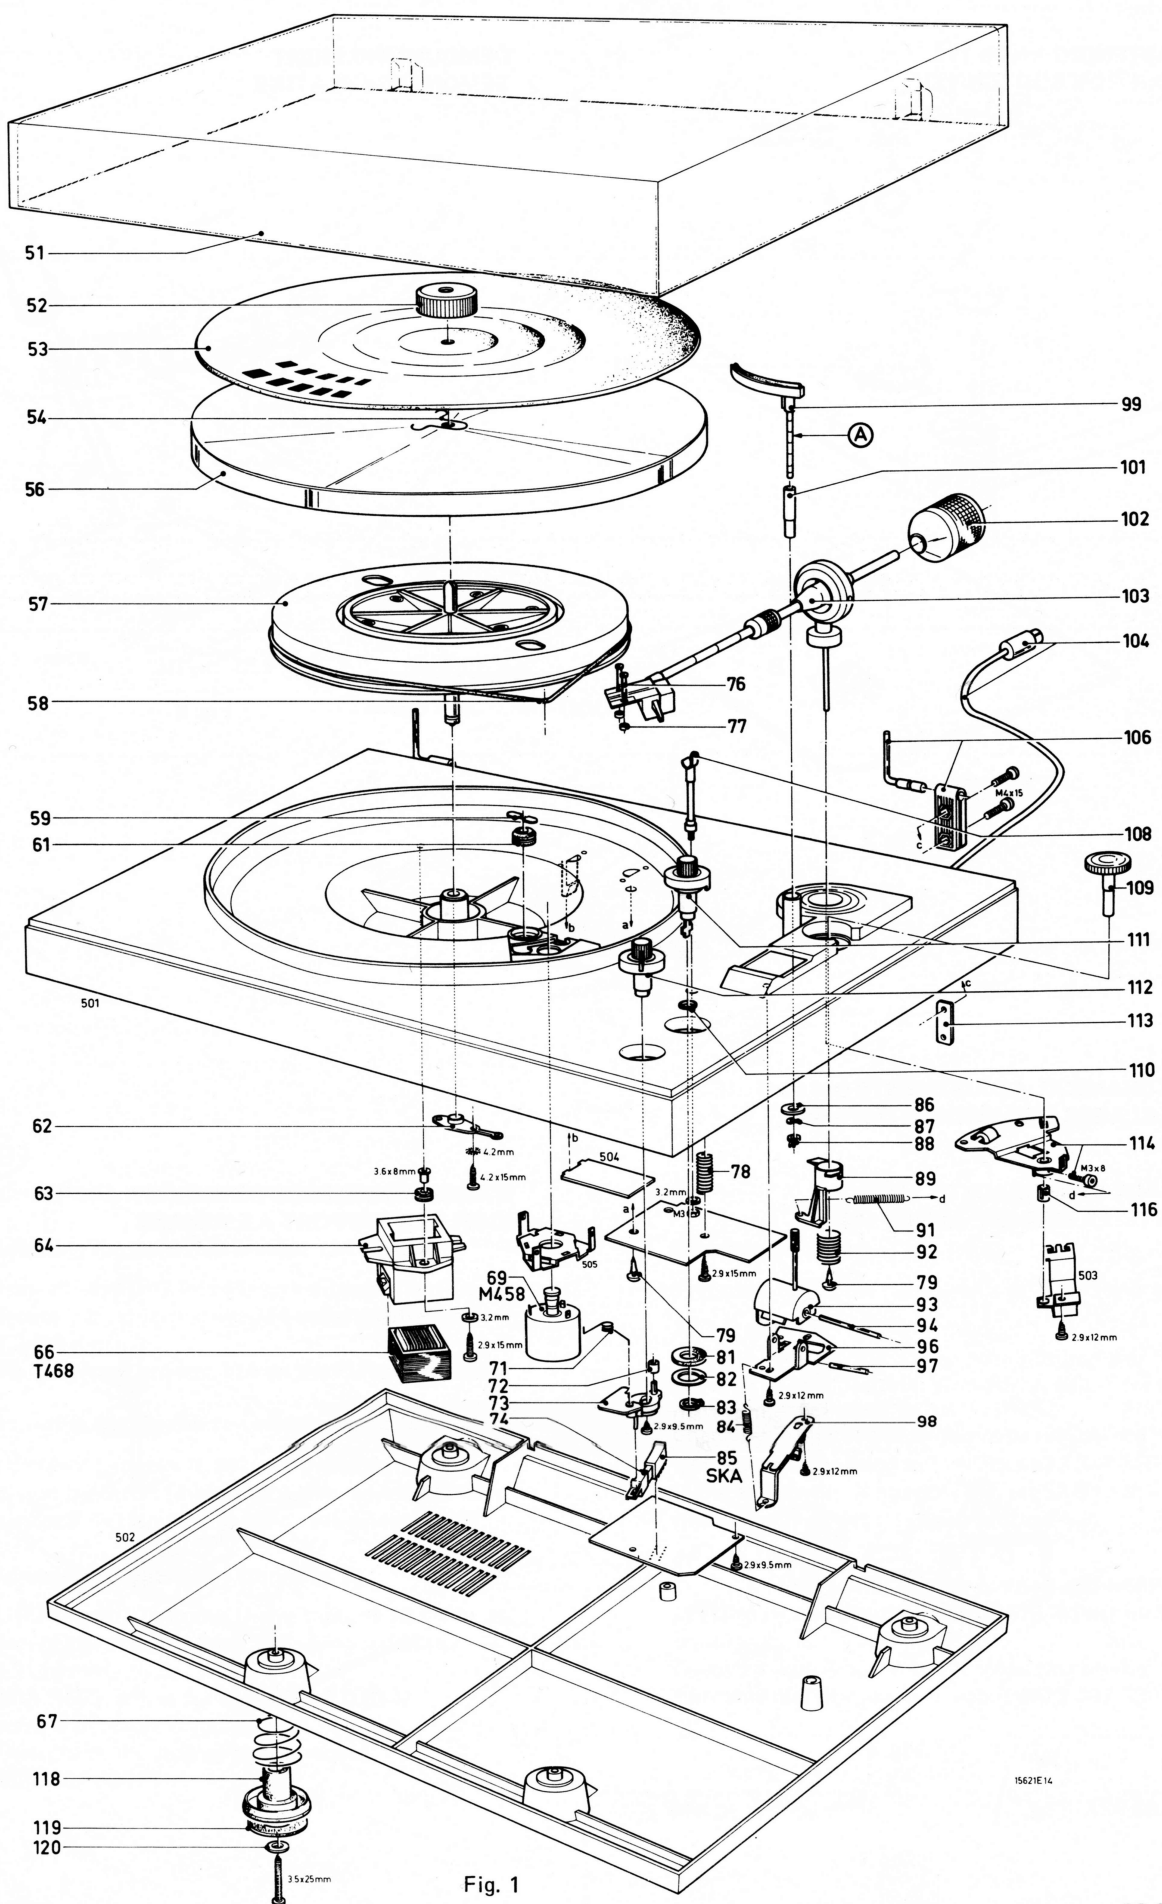

Fig. 1
- Place PU-arm 103 into PU-arm support 108 (Fig. 1)
- Lift PU-arm 103 from PU-arm support 108 (Fig. 1).
4. Adjusting the speeds (Figs. 1,8,9)